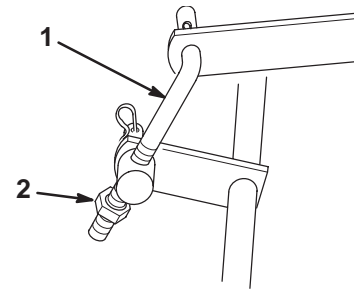

Figure 16
- To adjust the front-to-rear blade slope turn the locknut on rear adjustable link (Fig. 16).